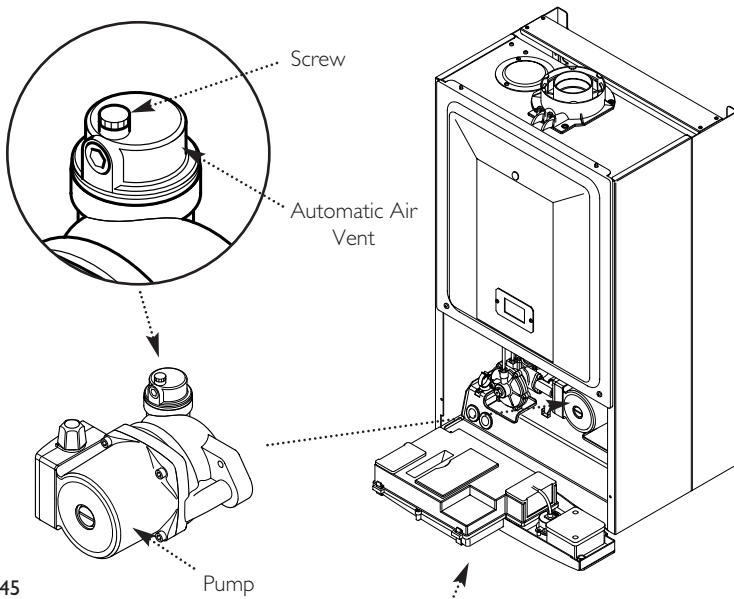

Fig. 45
6. Open the screw on the automatic air vent (Fig. 45).